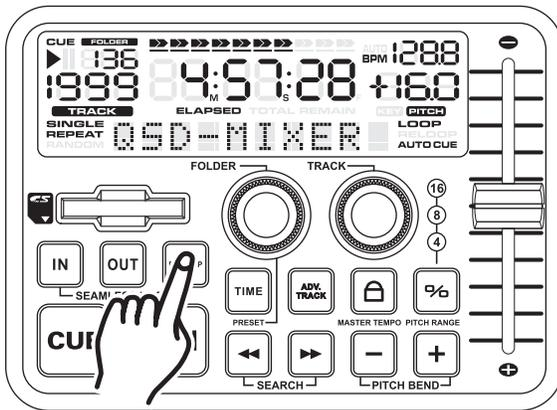

Figure 13
11. REPLAY LOOP - The *RELOOP* (35) function allows you to return to your stored loop at any time. The *IN BUTTON* (35) and *OUT BUTTON* (35) LEDs will indicate a loop is stored in memory, and may be played at any time. To replay the loop, press the *RELOOP BUTTON* (35) (Figure 13). The *IN BUTTON* (35) and *OUT BUTTON* (35) LEDs will again begin to flash indicating SEAMLESS LOOP mode has been activated and your stored loop will immediately begin to play.